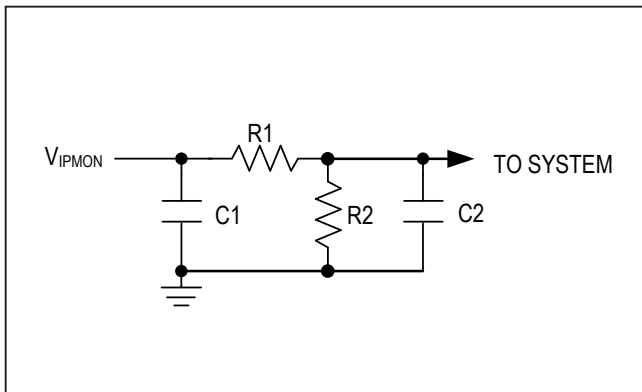

Figure 2. External RC Network to Adjust V_{IPMON}
Adding an RC network at the IPMON output (Figure 2) allows the overall V_{IPMON} gain (G) to be adjusted per the following equation:
Figure 2 shows an ORing application where a resistive divider connected from IN1 at the \overline{PC} pin controls the turn-on of the ORing MOSFET, MD2, in the IN2 supply path. When the IN1 supply voltage falls below 4.5V, it turns on the ORing MOSFET, MD2, causing the ORing output to be